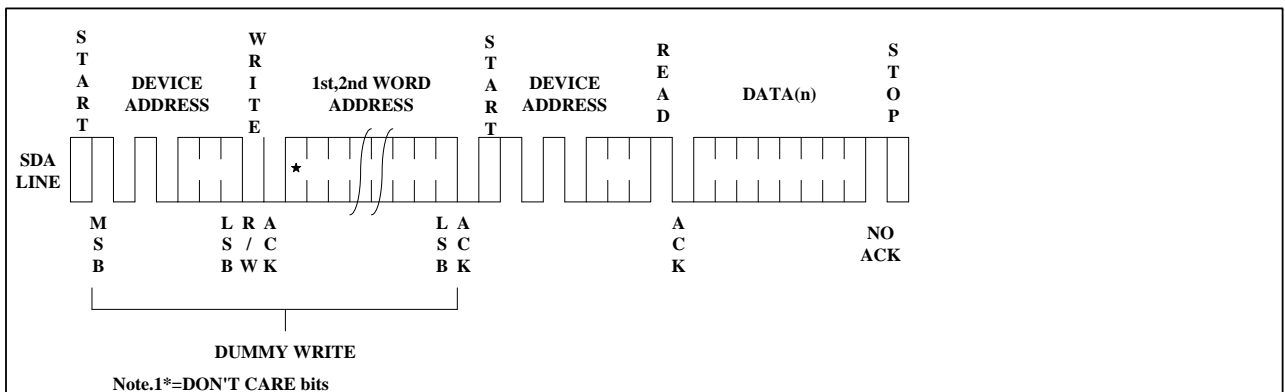

Figure 10. Random Read
**RANDOM READ:** A random read requires a "dummy" byte write sequence to load in the data word address. Once the device address word and data word address are clocked in and acknowledged by the EEPROM, the microcontroller must generate another start condition. The microcontroller now initiates a current address read by sending a device address with the read/write select bit high. The EEPROM acknowledges the device address and serially clocks out the data word. The microcontroller does not respond with a "0" but does generate a following stop condition (see **Figure 10**)